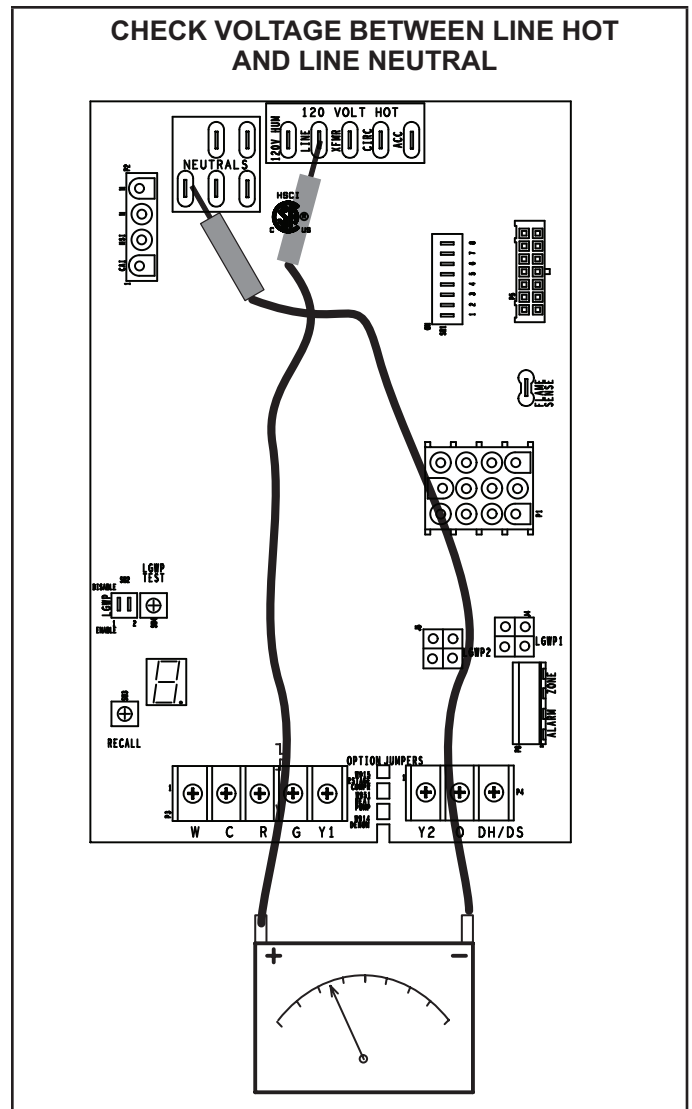

FIGURE 27
- 2 - In addition, measure the AC voltage from Line Hot to Line Neutral (spade terminals) on the integrated control. See FIGURE 27. This voltage should be in the range of 97 to 132 Vac.